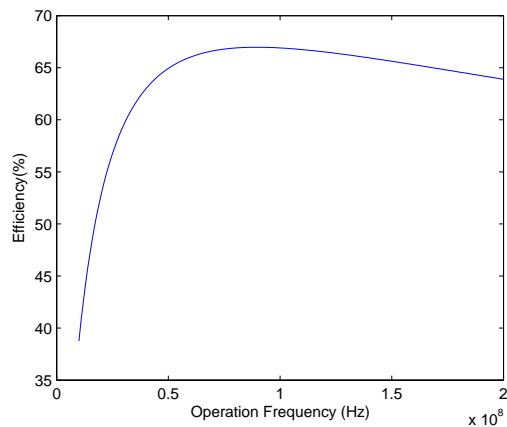
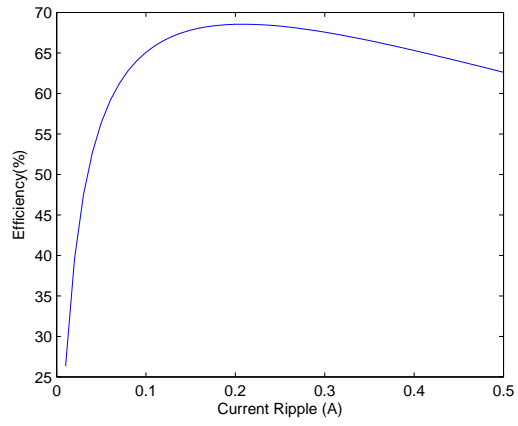

Figure 1: Operation Frequency vs Power Efficiency
Figure 2: Current Ripple vs Power Efficiency
1. Check out the paper where over 80% efficiency is claimed. It turns out that the difference is due to the device/inductor model. Figure 1 and Figure 2 shows that, if we use the same formula but with the parameter provided in IBM 9sf process, the maximum efficiency will drop to around 70%. But the analysis provided in the paper is still valid, we still can optimize our design parameter according to these methods.